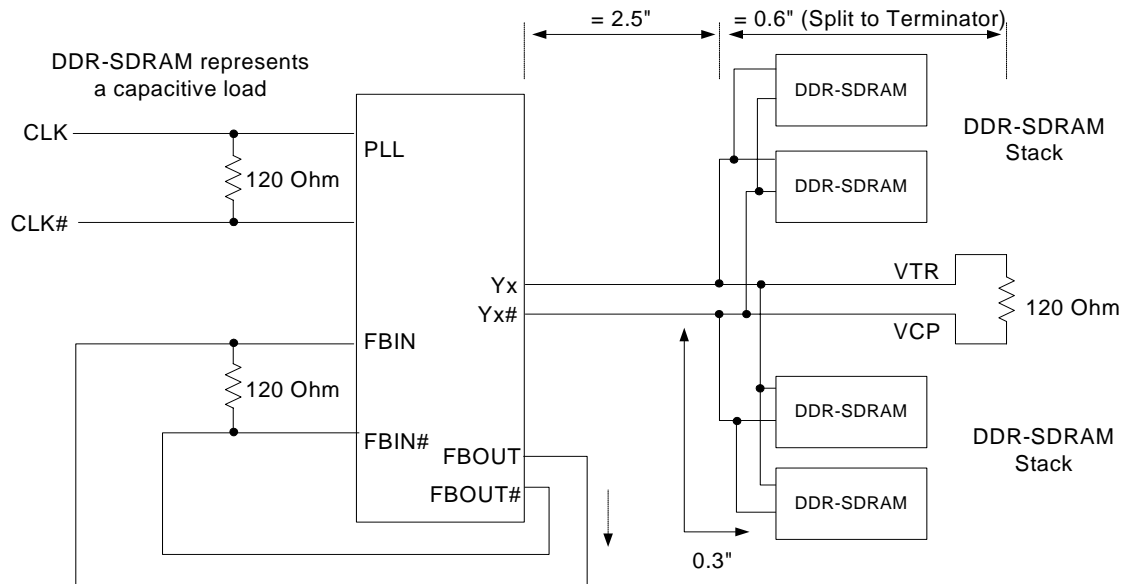

Figure 2. Clock Structure 2^[2]
9. All differential input and output terminals are terminated with $120\Omega/16\text{ pF}$ as shown in Figure 2.